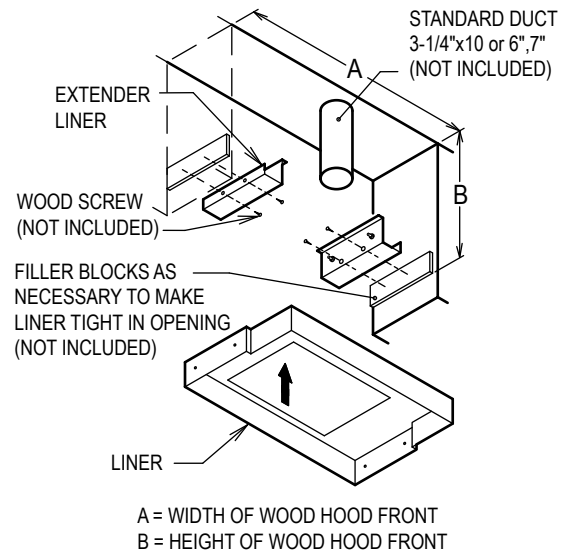
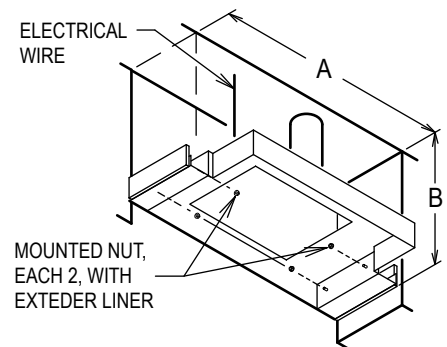

FIG 1
FIG 2
1. Scribe a line (B) distance from top of adjacent cabinets. Position wood filler blocks flat on side of adjacent cabinets above scribe lines between frame stiles and rear wall and securely fasten to cabinets see Fig.1.
3. (4) Nuts, (2) one side, are removed from the extender liner and liner is inserted from the bottom.
4. Liner is fixed with the detached nuts. Liner should now appear as in Fig.2.